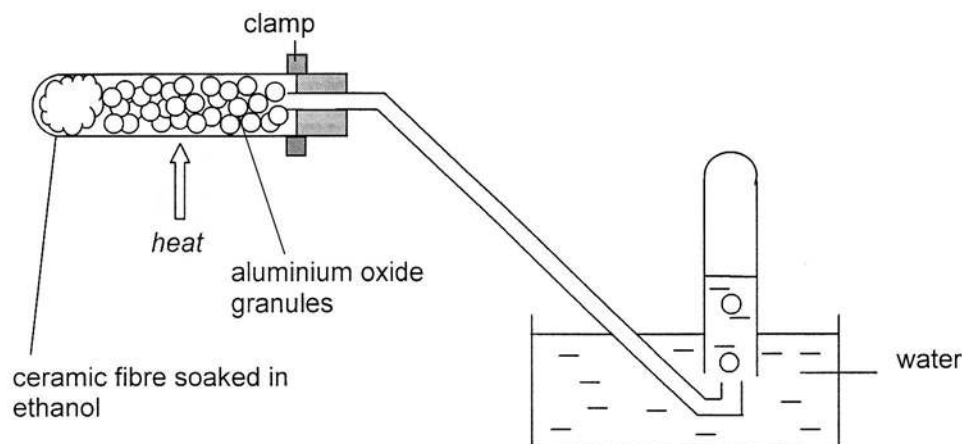

Figure 28.2
- 3 (a) What does the colour of the solution suggest about what has happened to the dichromate(VI) ion?
4. Heat the aluminium oxide strongly. Very occasionally, flick the flame onto the ceramic fibre, but only enough to ensure a steady stream of bubbles (figure 28.2).